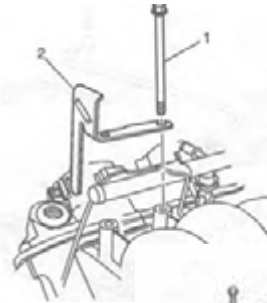

Fig.18
- 4) Remove temporary bolt spacers on five rear most bolts and hand start all 10 fasteners. Don't forget the fuel rail stop bracket on RH rear (fig.18).